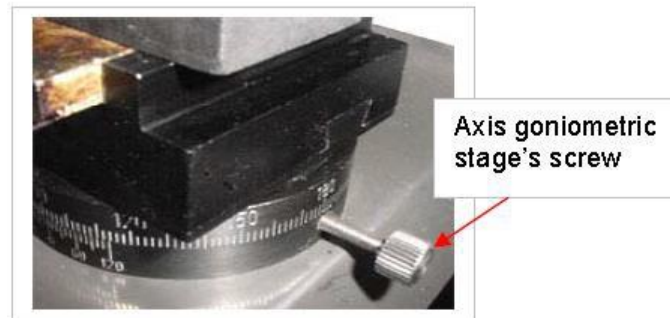

Figure 11
7. Make sure axis goniometric stage's screw #14 (as Fig. 11) on the sample stage is tightened after adjustments.